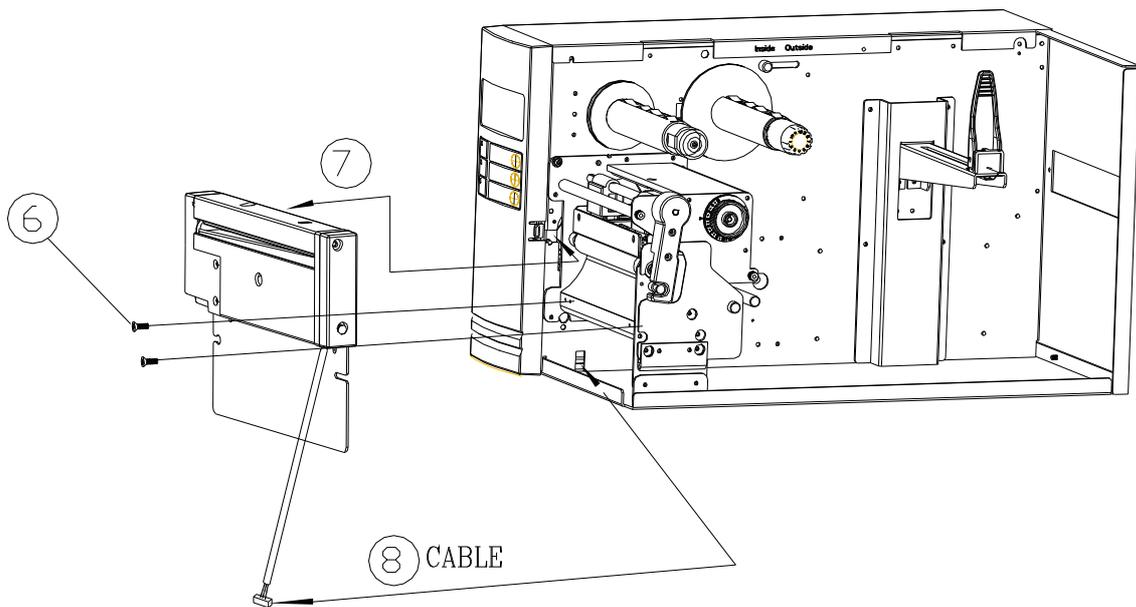

Figure 7.3
6. Insert the left side of cutter bracket (7) and secure two screws (6) to the TPH module (Figure 7.3).
7. Thread the cutter cable (8) through a hole (Refer to the arrow of Figure 7.3) and route it to JP14 connector (CUTTER) on the Main Board.